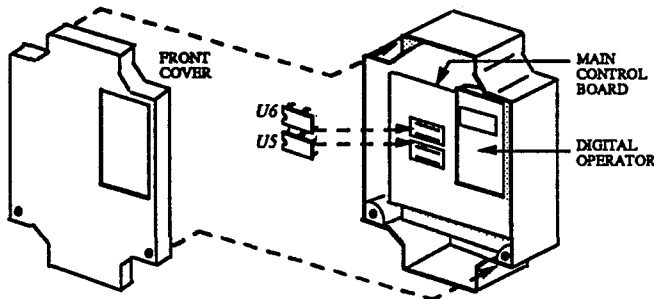

Figure 1. Installation of Speed Feedback EPROM Set in GPD 503
4. See Figure 1. Remove the standard EPROM set and install the Speed Feedback EPROM set as shown. Be sure to locate U5 and U6 in their proper place **with notches facing left!** Failure to do this will ruin the EPROMs.